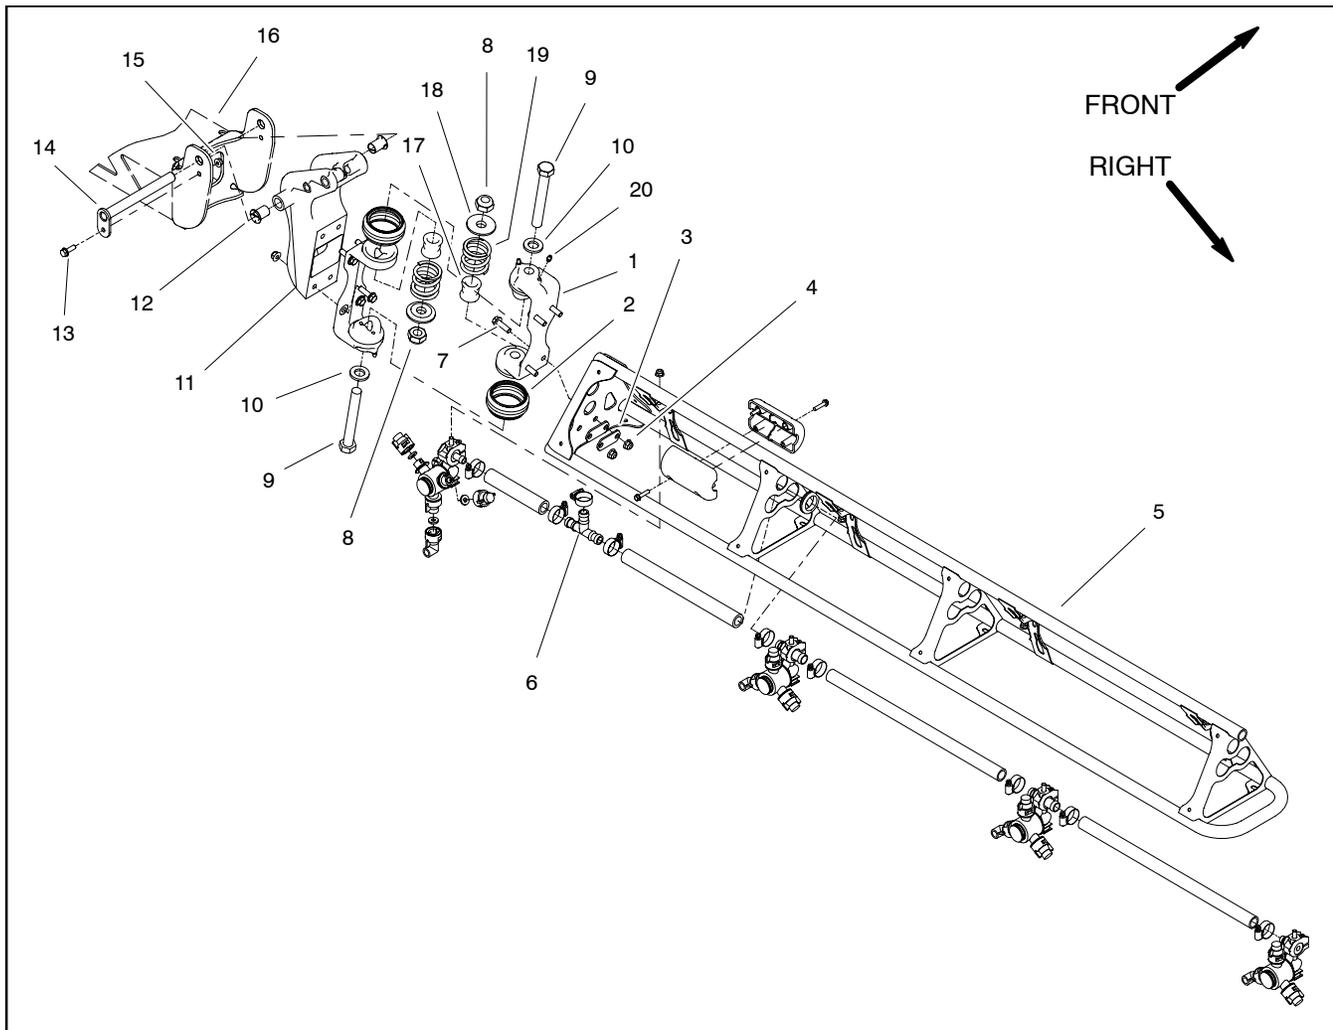

Figure 58
Disassembly (Fig. 58)
2. Loosen hose clamp and remove supply hose from tee fitting (item 6) on spray boom.
4. Loosen two (2) cap screws (item 9) and lock nuts (item 8) to allow breakaway springs (item 18) to fully extend.
5. Complete disassembly as required using Figure 58 as a guide. If pivot bracket (item 11) is to be removed from machine, disconnect boom actuator (not shown) from pivot bracket (see Boom Actuator Removal (Machines with Serial Numbers Above 26000000) in this section).
Assembly (Fig. 58)